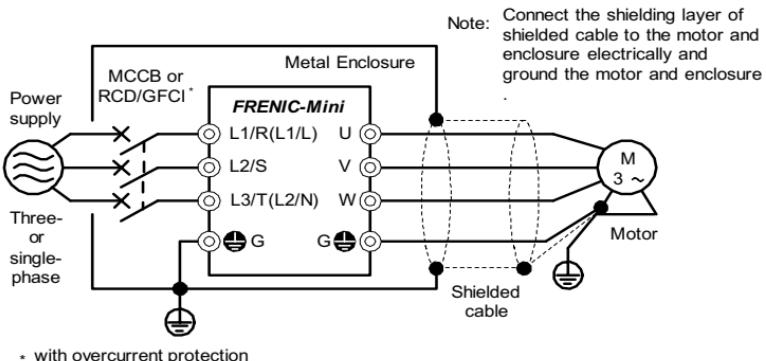

Figure 11.5 Installing the Inverter into a Metal Panel
(4) If noise from the inverter exceeds the permissible level, enclose the inverter and its peripherals within a metal panel as shown in Figure 11.5.